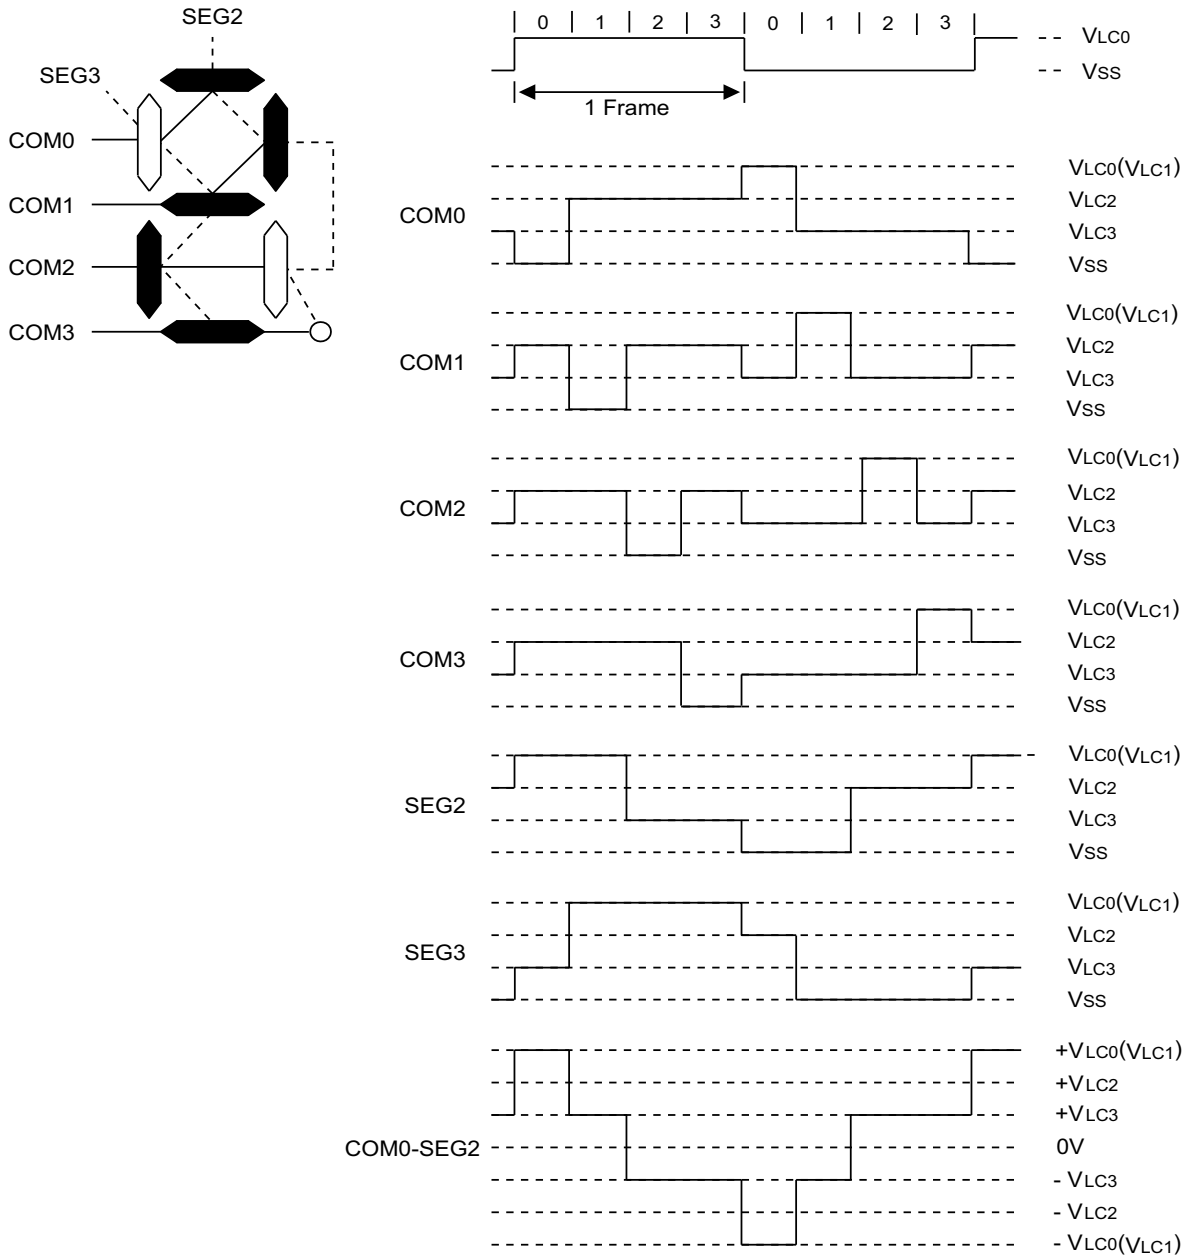

Figure 93. LCD Signal Waveforms: 1/4 Duty, 1/3 Bias
► **Note:** In Figure 93, $V_{LC0} = V_{LC1}$.